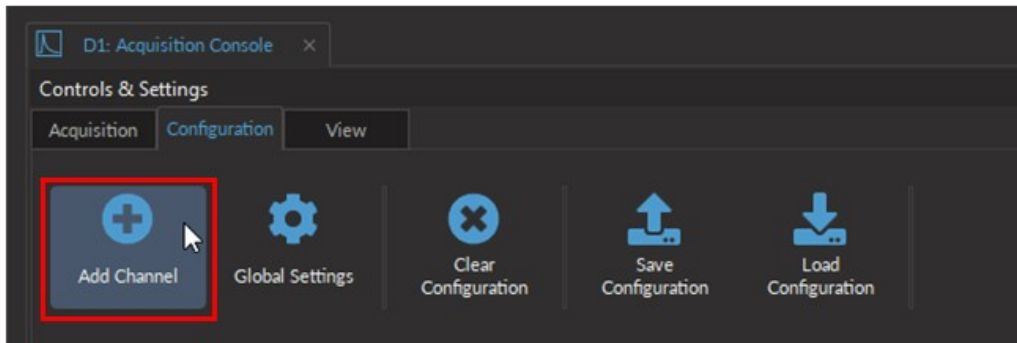
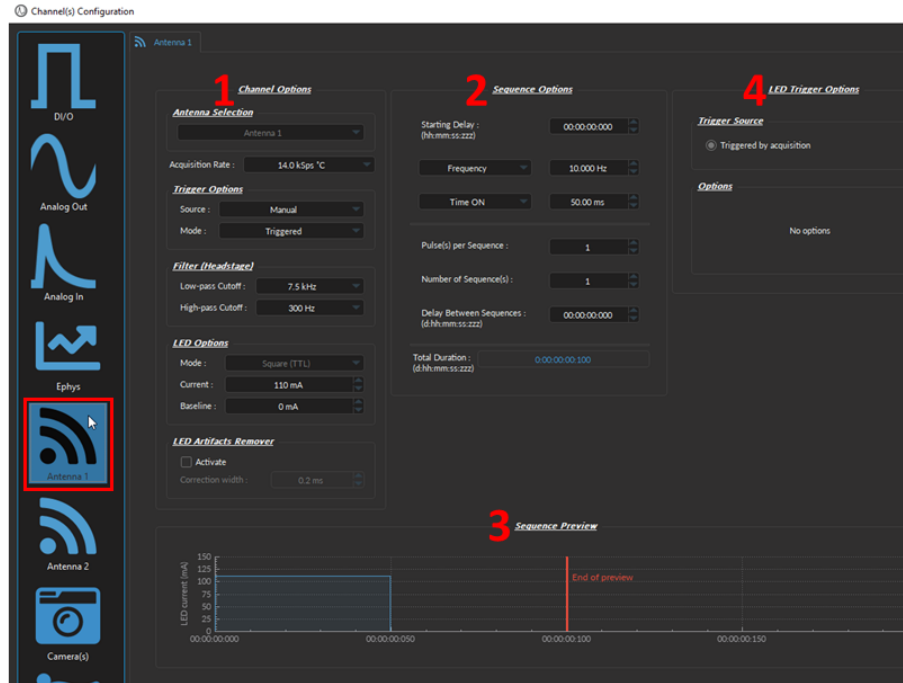

Figure 8.11: Add Channel button opens the Channel Configuration window
Figure 8.13: Electrophysiology channel configuration window
To create a new channel, regardless of the input and/or output type, select the **Add Channel** button, which can be found under the **Configuration** tab (Fig. 8.11). This will open the **Channel(s) Configuration** window (Fig. 8.13).
Different types of input and output can be configured for the particular of the experiment by creating a new Channel in the Configuration tab or editing an existing one (Fig 8.11). Table 8.1 details the types of inputs and output the console and the software can handle and gives a quick access to their sections.
The *Channel(s) Configuration* window for the Antenna Channel is divided into four sections (Fig. 8.13): (1) the **Channel Options** (Section 8.4.3.1), (2) the **Sequence Options** & (3) **Preview** (both treated in Section 8.4.3.3), and (4) the **LED Trigger Options** (Section 8.4.3.2).
The *Channel(s) Configuration* window for the **Digital I/O** Channel is divided into three sections (Fig. 8.13): (1) the **Channel Options** (Section 8.4.4.1), (2) the **Sequence Options** & (3) **Preview** (both treated in Section 8.4.4.2).